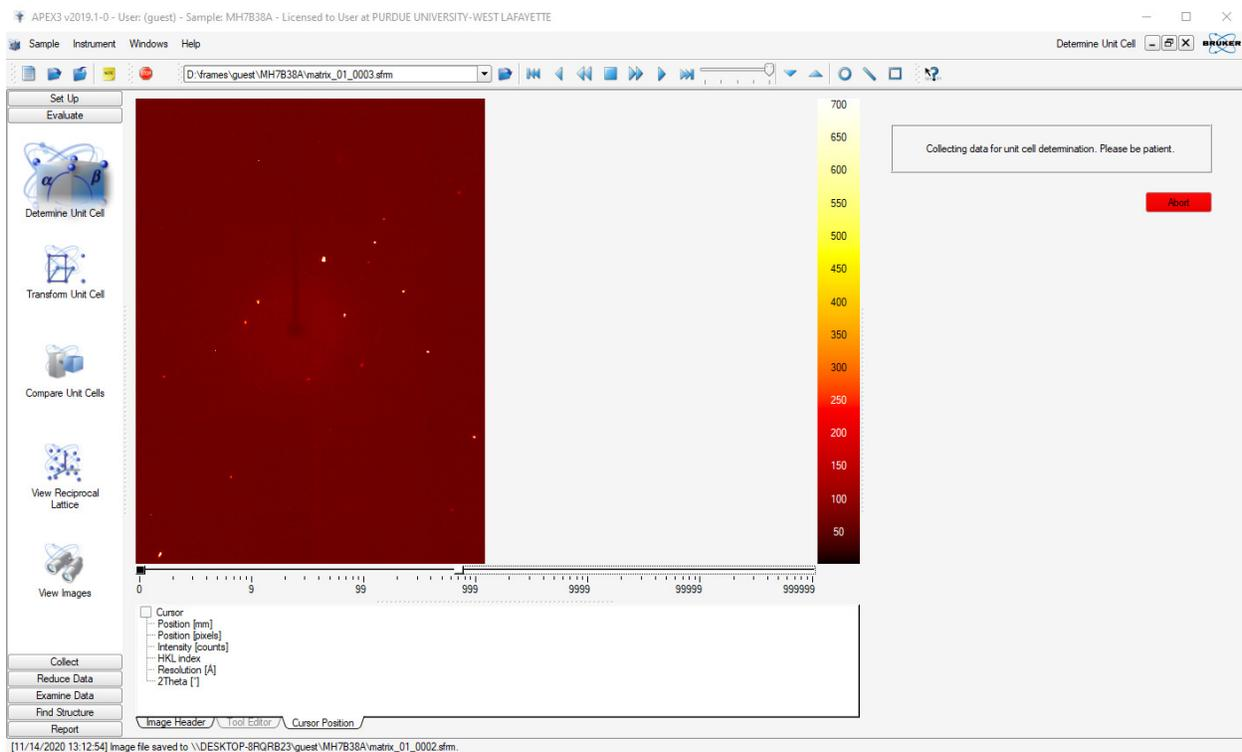
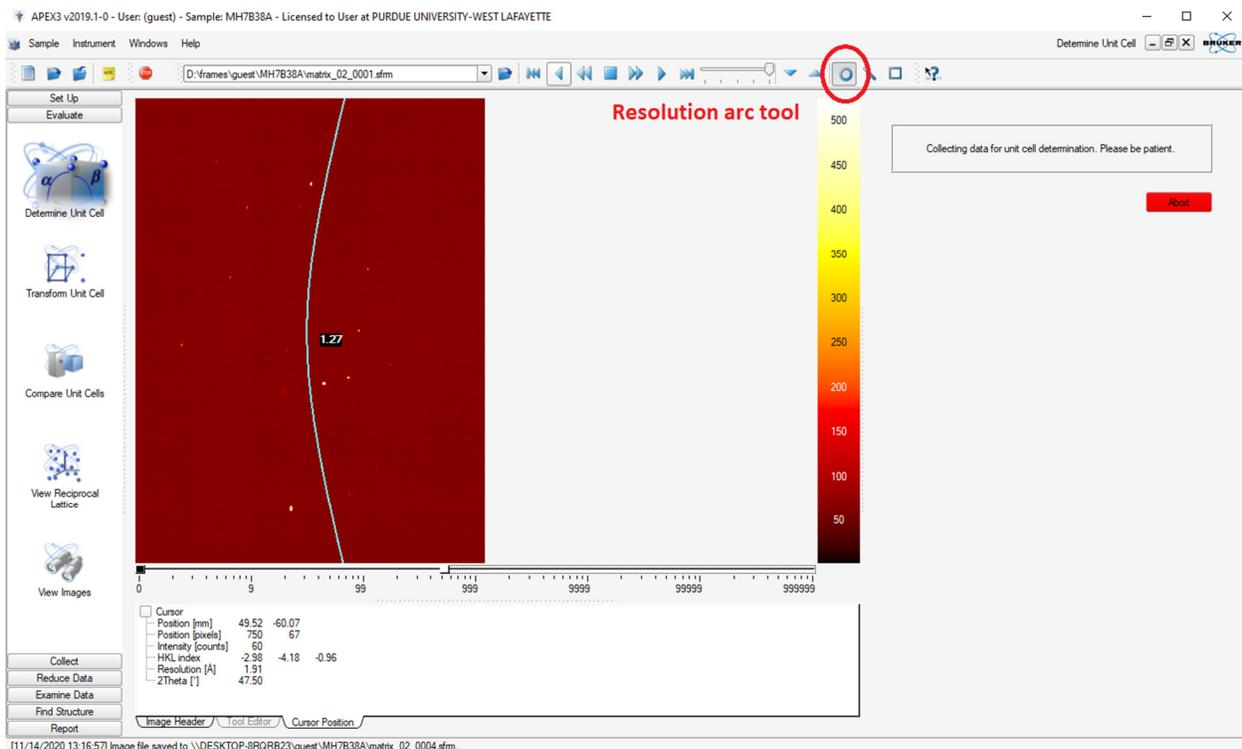

Figure 11, Unit Cell window with the first (low angle) sweep running.
Figure 12, Unit Cell window with one of the high angle sweeps running and resolution arc tool.
- 3×20 frames will be collected which will be displayed in the frame window. The first sweep will be at low angle, with the beam stop visible at the center (Figure 11). The second and third run (Figure 12) will be at high angle. Make sure that your specimen diffracts to sufficiently high angle. Use the resolution arc tool (Figure 12) to check the resolution limit. Only samples that show at least some diffraction above ca. 0.9 \AA (with ten second exposures) are likely to meet the IUCr requirements for publication.